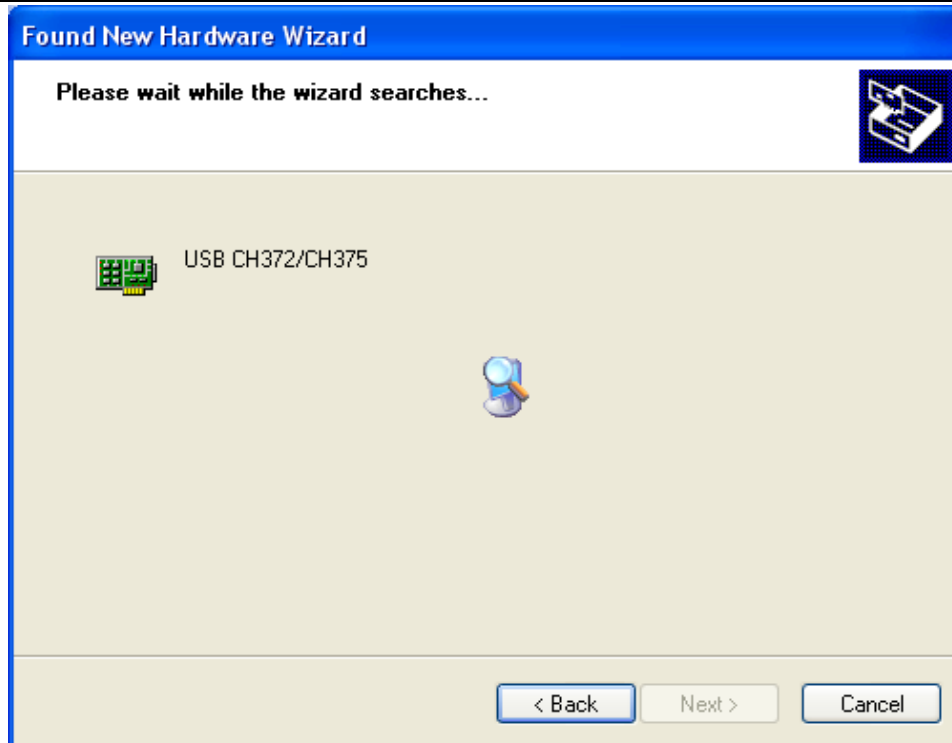
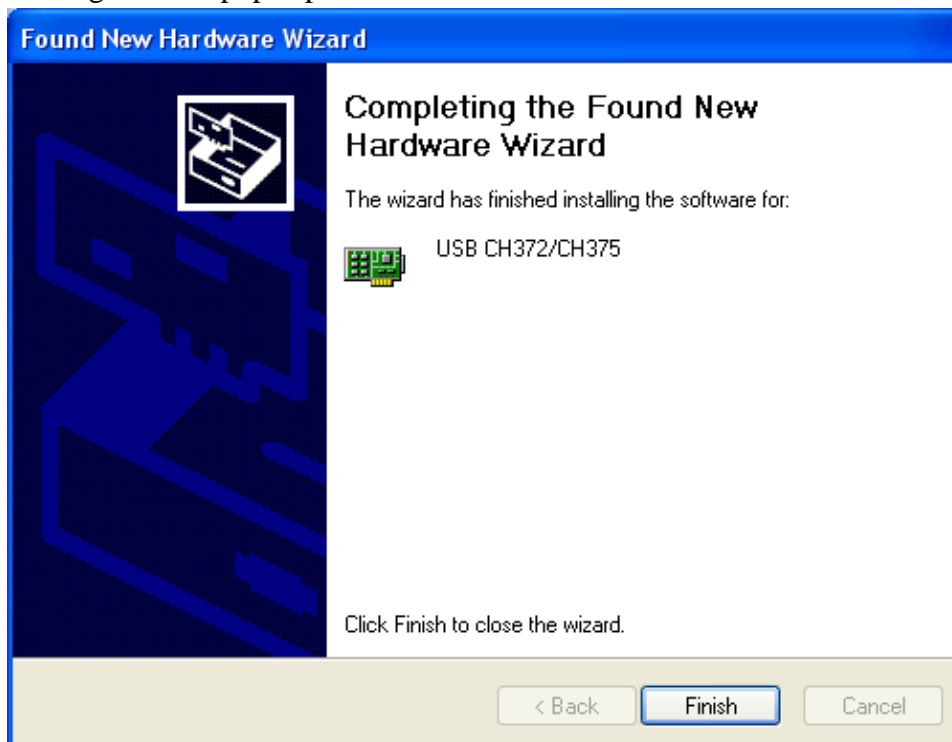

Figure 1-15
Figure 1-16
3. In the new hardware wizard dialog box in Figure 1-14, select the “Install the software automatically” option, then click NEXT to enter the automatic driver search and installation page, as shown in Figure 1-15.
4. As shown in Figure 1-15, the hardware installation wizard of your digital storage oscilloscope begins searching and installing the USB driver for the oscilloscope communication and control software. When installation is complete the dialog box shown in Figure 1-16 pops up.
5. In Figure 1-16, click the **Finish** button. Your USB driver is now installed, and instant communication and control are enabled between the oscilloscope and the software. Please read “Chapter 3 : Operation guide for the oscilloscope communication and control software” prior to operation to familiarise with communication and control via the USB interface.